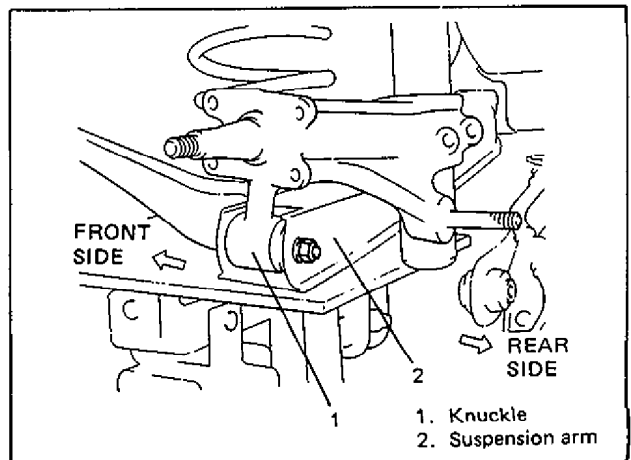

Fig. 3E-40
- 4) Tighten strut lower mount bolt to specified torque. For torque data, refer to Fig. 3E-41.